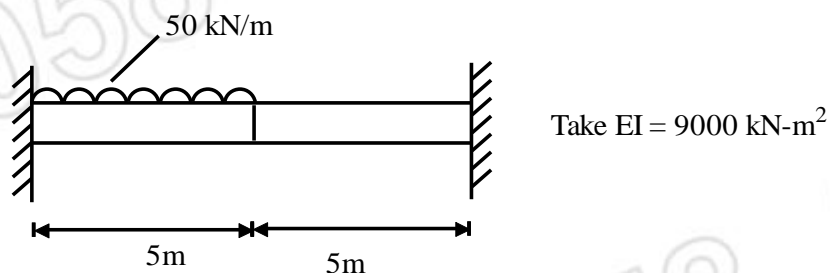

Fig. 4 (a)
4. a) Determine the nodal deflections and support reactions for the beam shown in fig. 4 (a). Also determine deflection at mid point of an UDL. 14